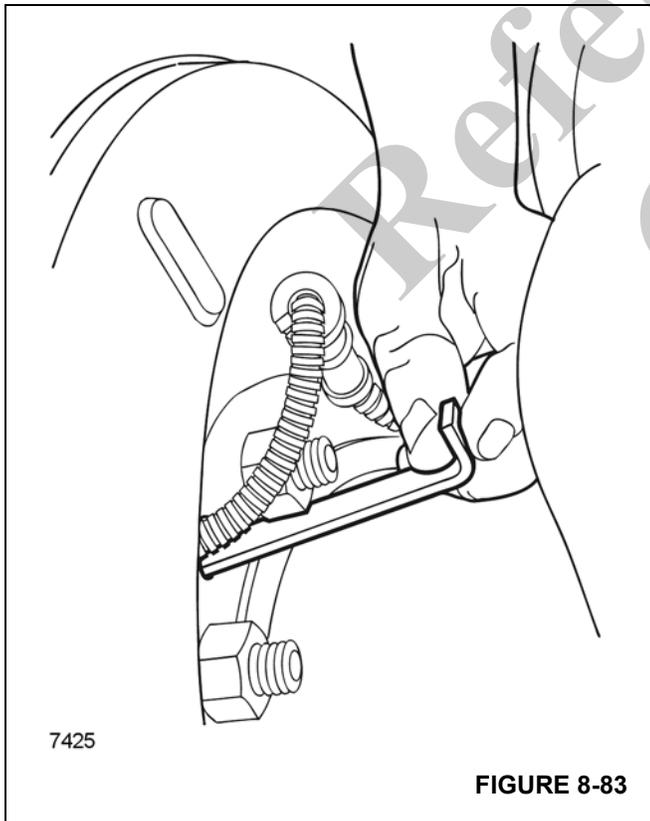

FIGURE 8-83
1. Slide the notched end of an ABS sensor adjustment tool (Figure 8-83) through the opening in the brake spider until it rests against the sensor (the tool will go in the hole at a slight angle).